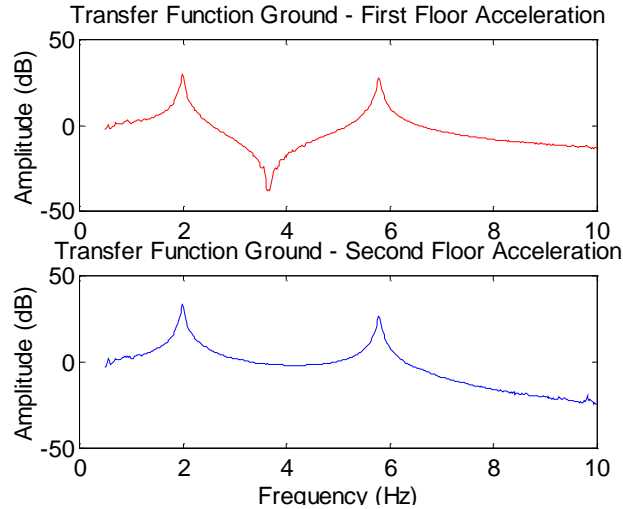

Figure 2. Sample transfer function plots for the test structure.
- Figure 2: Typical Transfer Functions
Figure 2 provides typical transfer functions for the test structure. The system has two natural frequencies. The natural frequencies of this structure are: 2 Hz and 5.8 Hz. The two values are the same in both plots.